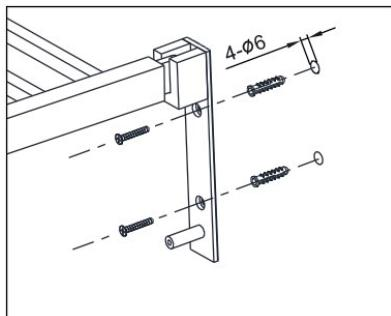
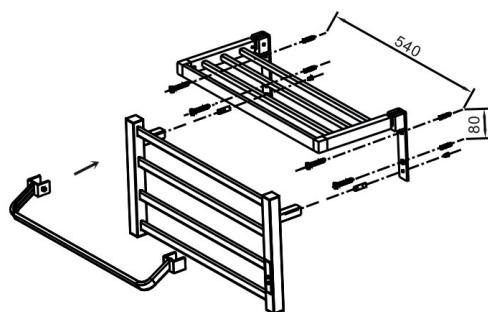

Figure 4
Figure 5
1. Drill the holes ($\varnothing 6\text{mm}$) in the wall according to Figure 4 and Figure 5.